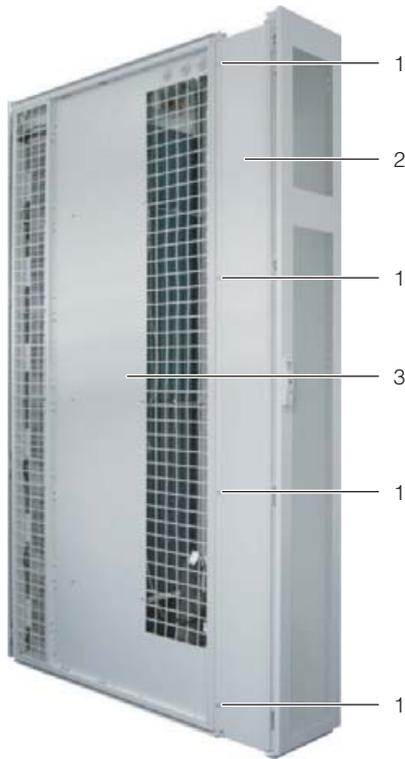

Fig. 25: Adaptor on the LCP Inline
- Attach the adaptor (fig. 25, item 2) to the rear opening of the LCP Inline using four of the supplied screws (fig. 25, item 1) each on the left and right.